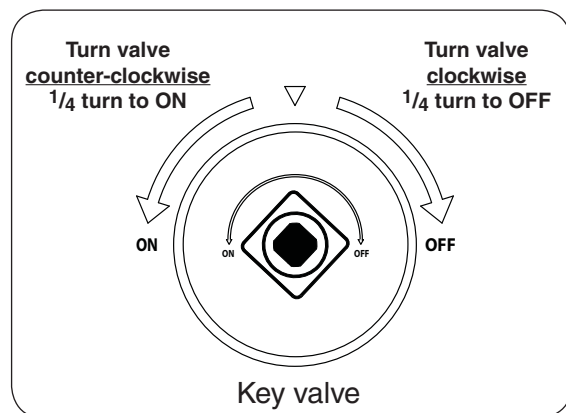

Fig. 21-2
4. **Once the match is burning and in position**, turn the key valve counter-clockwise a $\frac{1}{4}$ turn to the **ON** position (see Fig. 21-2). Your burner should light.
To extinguish your gas burner, turn the key valve clockwise a $\frac{1}{4}$ turn to the **OFF** position (see Fig. 21-2). Be sure the key valve is turned fully off to avoid any gas leakage.